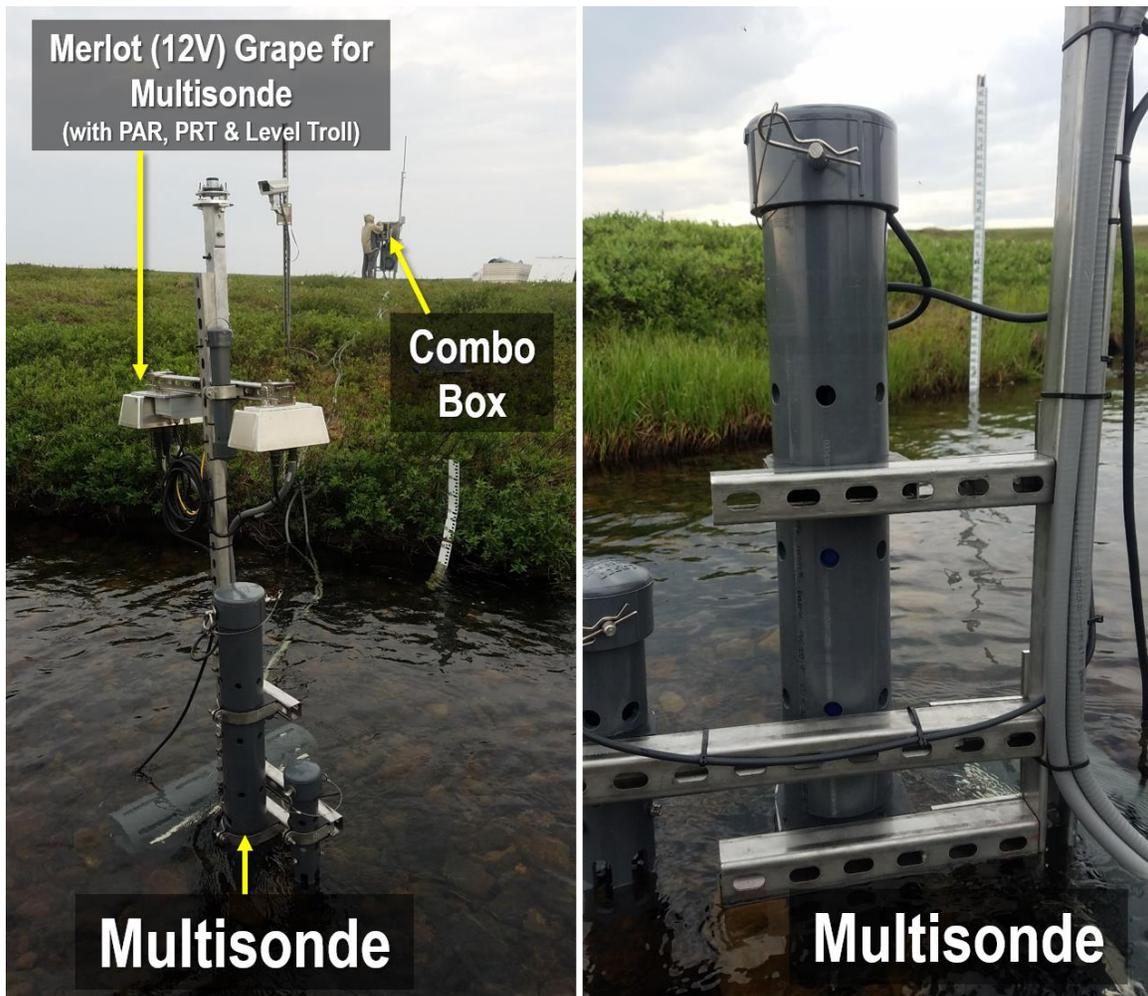

Figure 12. Multisonde on an anchor with subsystem components at wadeable stream location
is co-located with a Photosynthetically Active Radiation (PAR) PQS1 sensor, a Platinum Resistance Thermometer (PRT), and a Level TROLL. For downstream/S2 locations, the Multisonde is co-located with the same sensors as S1, but with an additional sensor probe to measure for fDOM and a SUNA (**Figure 12**). It primarily shares a space with the PRT in a fixed PVC tube, which will either be mounted vertically to an in-stream anchor (image to the right in **Figure 12**), mounted horizontally to in-stream infrastructure, or suspended horizontally from a steel downrigger attached that is attached to an overhead cable truss.
The sensor subsystems (i.e., data logger, power, and communication equipment and cable) are located with the sensors in the stream (attached to an anchor) or are located onshore. The Multisonde shares a Merlot (12V) Grape with the Level TROLL, PAR and PRT (see **Figure 12** and **Figure 14**). At high-water and sites with overhead cable infrastructure, the Grape mounts to an arbor on or above the bank as a stand-alone installation or on a device post with a Power and/or Comm/Combo box (**Figure 14**). Between the Grape and Multisonde is an adapter box called a DCP (seen in **Figure 12** next to sonde GRAPE), which converts the output signals from the YSI Multisonde to the Grape. The Grape supplies power to the Multisonde and transmits its data to the Location Controller (LC) in the Aquatic Portal. Reference AD [05], AD [06] and AD [10] for more information on AIS stream mechanical and electrical infrastructure.